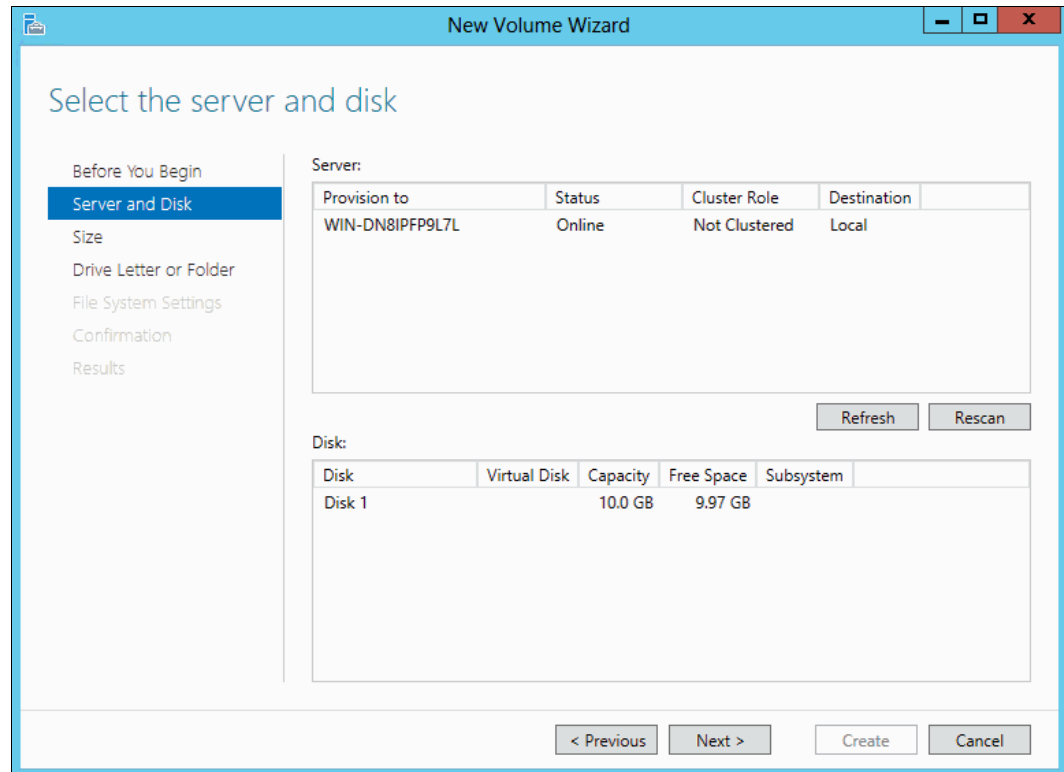

Figure 5-38 Choosing the Server and Disk
2. The New Volume Wizard opens. Click **Next** on the first page to open the page shown in Figure 5-38.